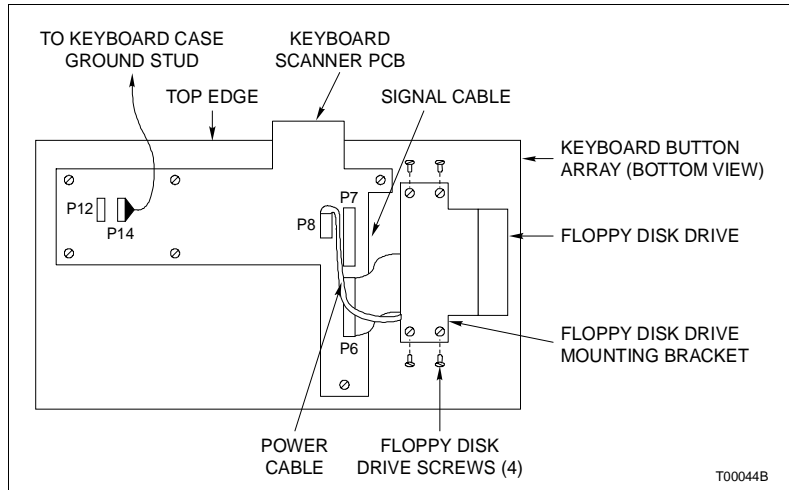

Figure PR56-2. Floppy Disk Drive Replacement
4. Remove the ground wire from P14 on the keyboard scanner PCB (Fig. PR56-2).